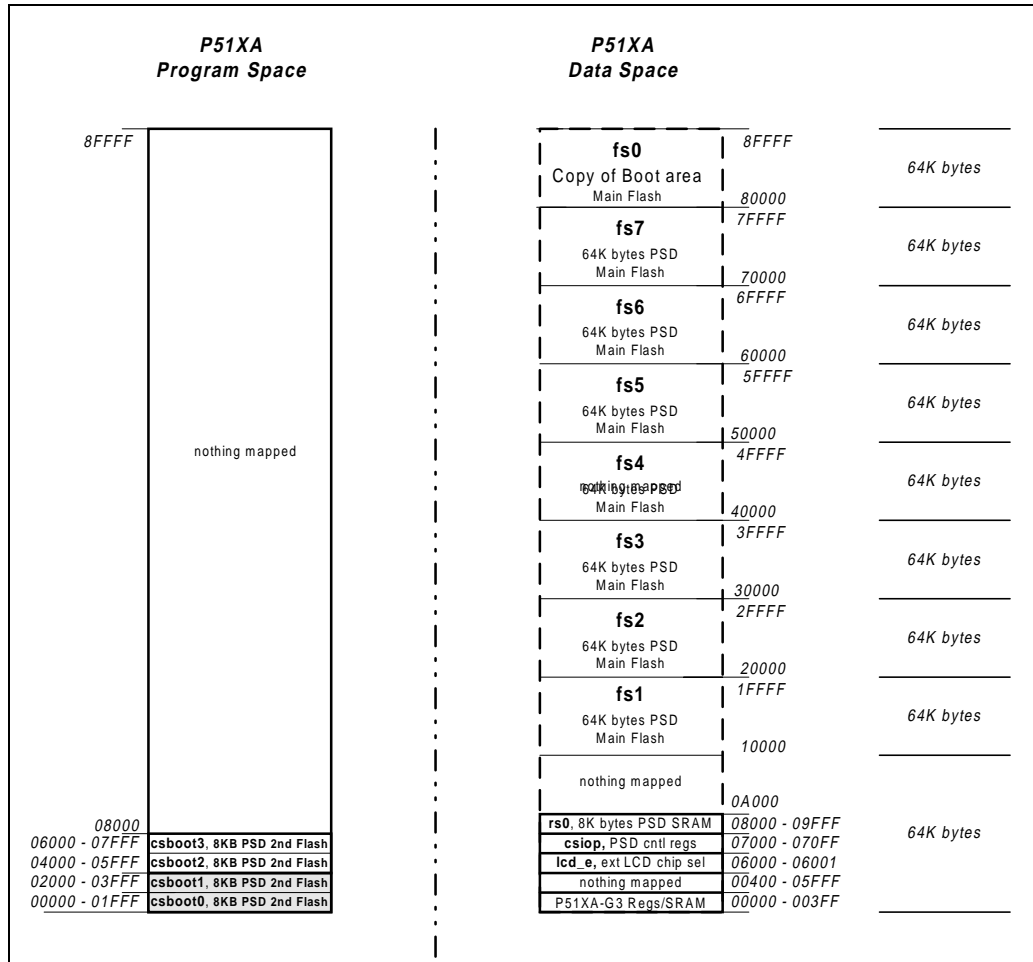
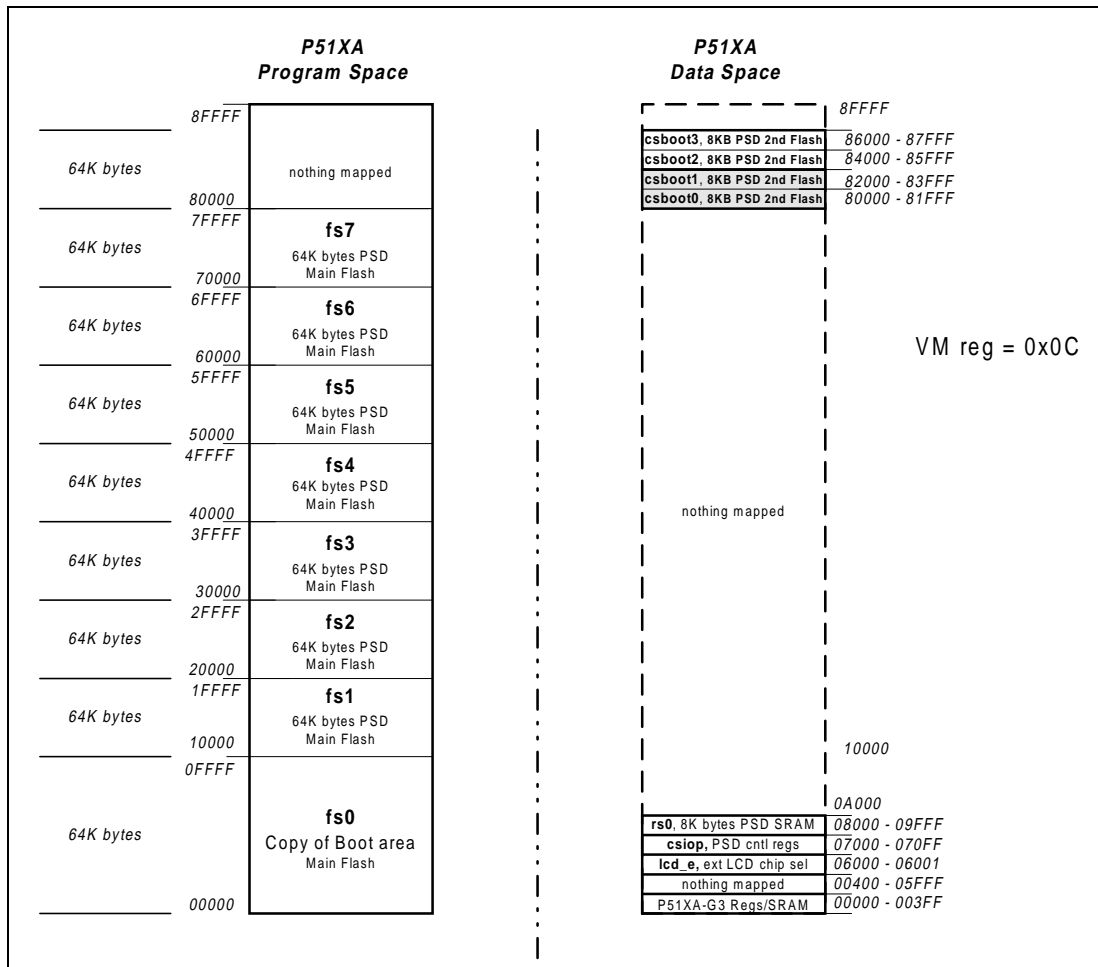

Figure 9 Memory map after running of htestXA.obj
Figure 10 Memory map for alternate memory boot
Note that the logic variable (bit) controlling the actual location of the memory is “exe_src_a”. When this bit is zero (0), the memory segments are as shown in Figure 9. When exe_src_a is one (1), FS0 appears in the execution location as shown in Figure 10, and the csboot areas are not in the map at all. The physical location of this logic bit, exe_src_a, is in the bit6 position of the PAGE register. Actually this bit can be anywhere, the only important element is that it is contained in the PLD equations, as shown above, and accessible by the MCU. Control of this bit is via a board mounted dip switch.